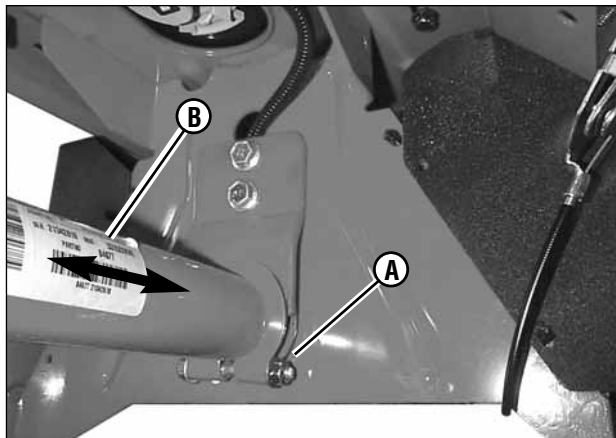

Figure 36: Mower belt adjustment
- Loosen the hardware (**A**, **Figure 36**) that secures the clamp that anchors the front frame assembly (**B**) to the rear main case.